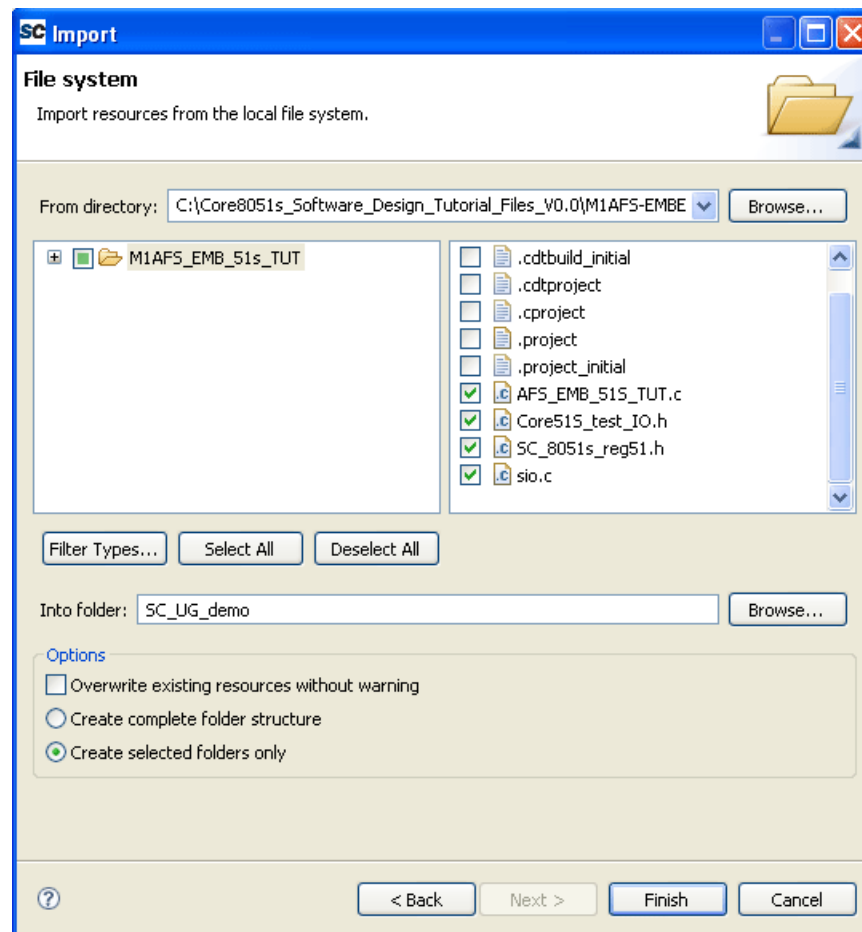

Figure 3-4 · Importing Files from a Project
5. Select **General** to expand the options and select **File System**. Click **Next**. This opens the Import: File System window (Figure 3-4 on page 20).